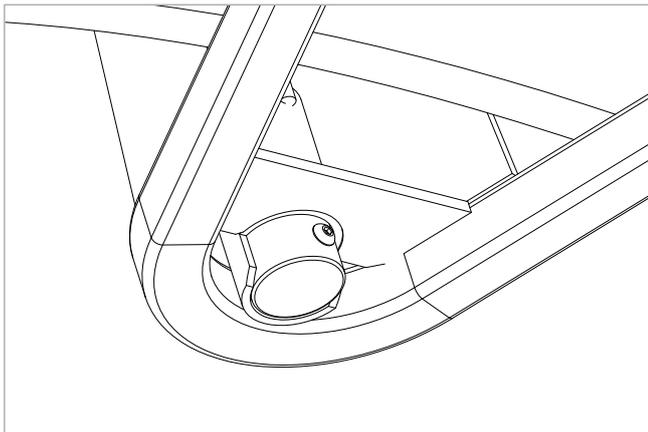

Figure 7.9
- Once the screw has been fitted, the Lifting Pole should now be fully secured (see Figure 7.9).